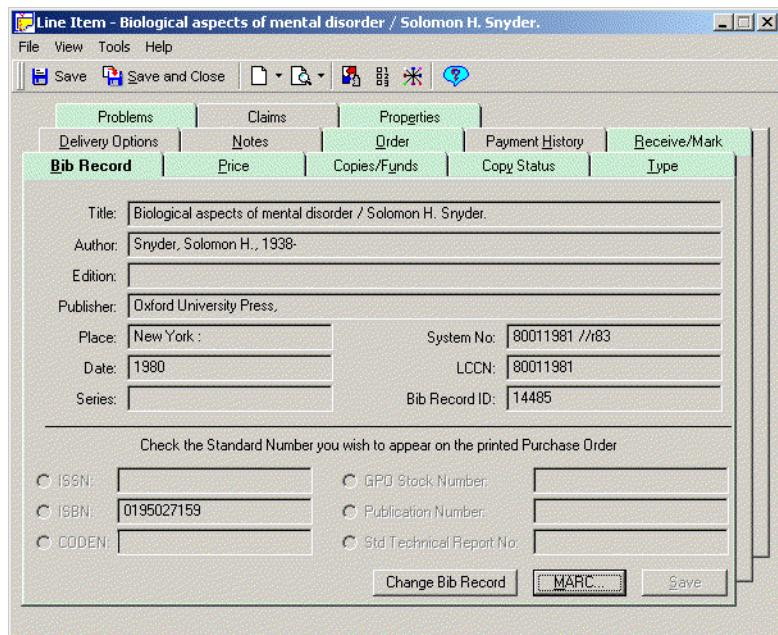

Figure 13-3. Line Item dialog box - Bib Record Tab
- The **MARC** button on the **Bib Record** tab (Figure 13-3) of a line item, which displays brief descriptive data from the bibliographic record associated with the line item. See Bib Record Tab on page 6-38 for more information.